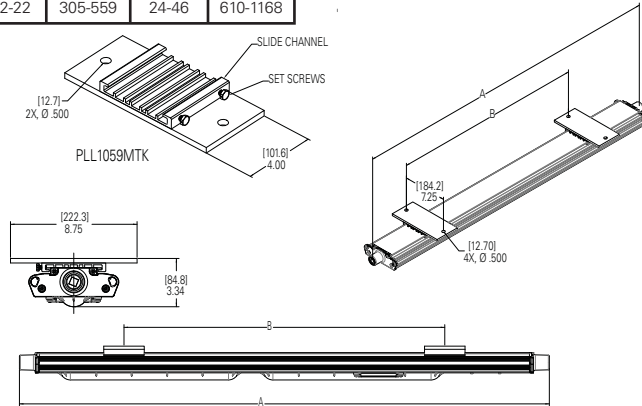

Figure 12
2. Mark and drill holes for fastening PLL1059MTK brackets. Use four (4) 3/8" bolts (not supplied) at center-to-center measurements (see Figure 12). For PLL1059MTK brackets, holes may be spaced as required. It is recommended to keep them at least 12" (305mm) apart (see Figure 12).
3. Fixture is now ready for mounting. It is strongly suggested to use two (2) qualified tradespeople to proceed with the final mounting of the fixture. This is recommended to avoid any personal injury or damage to the fixture.
5. Tighten the four (4) 1/4" set screws on slide channels until they bottom (see Figure 12). Torque to 78 in.-lbs. (8.8 N-m).